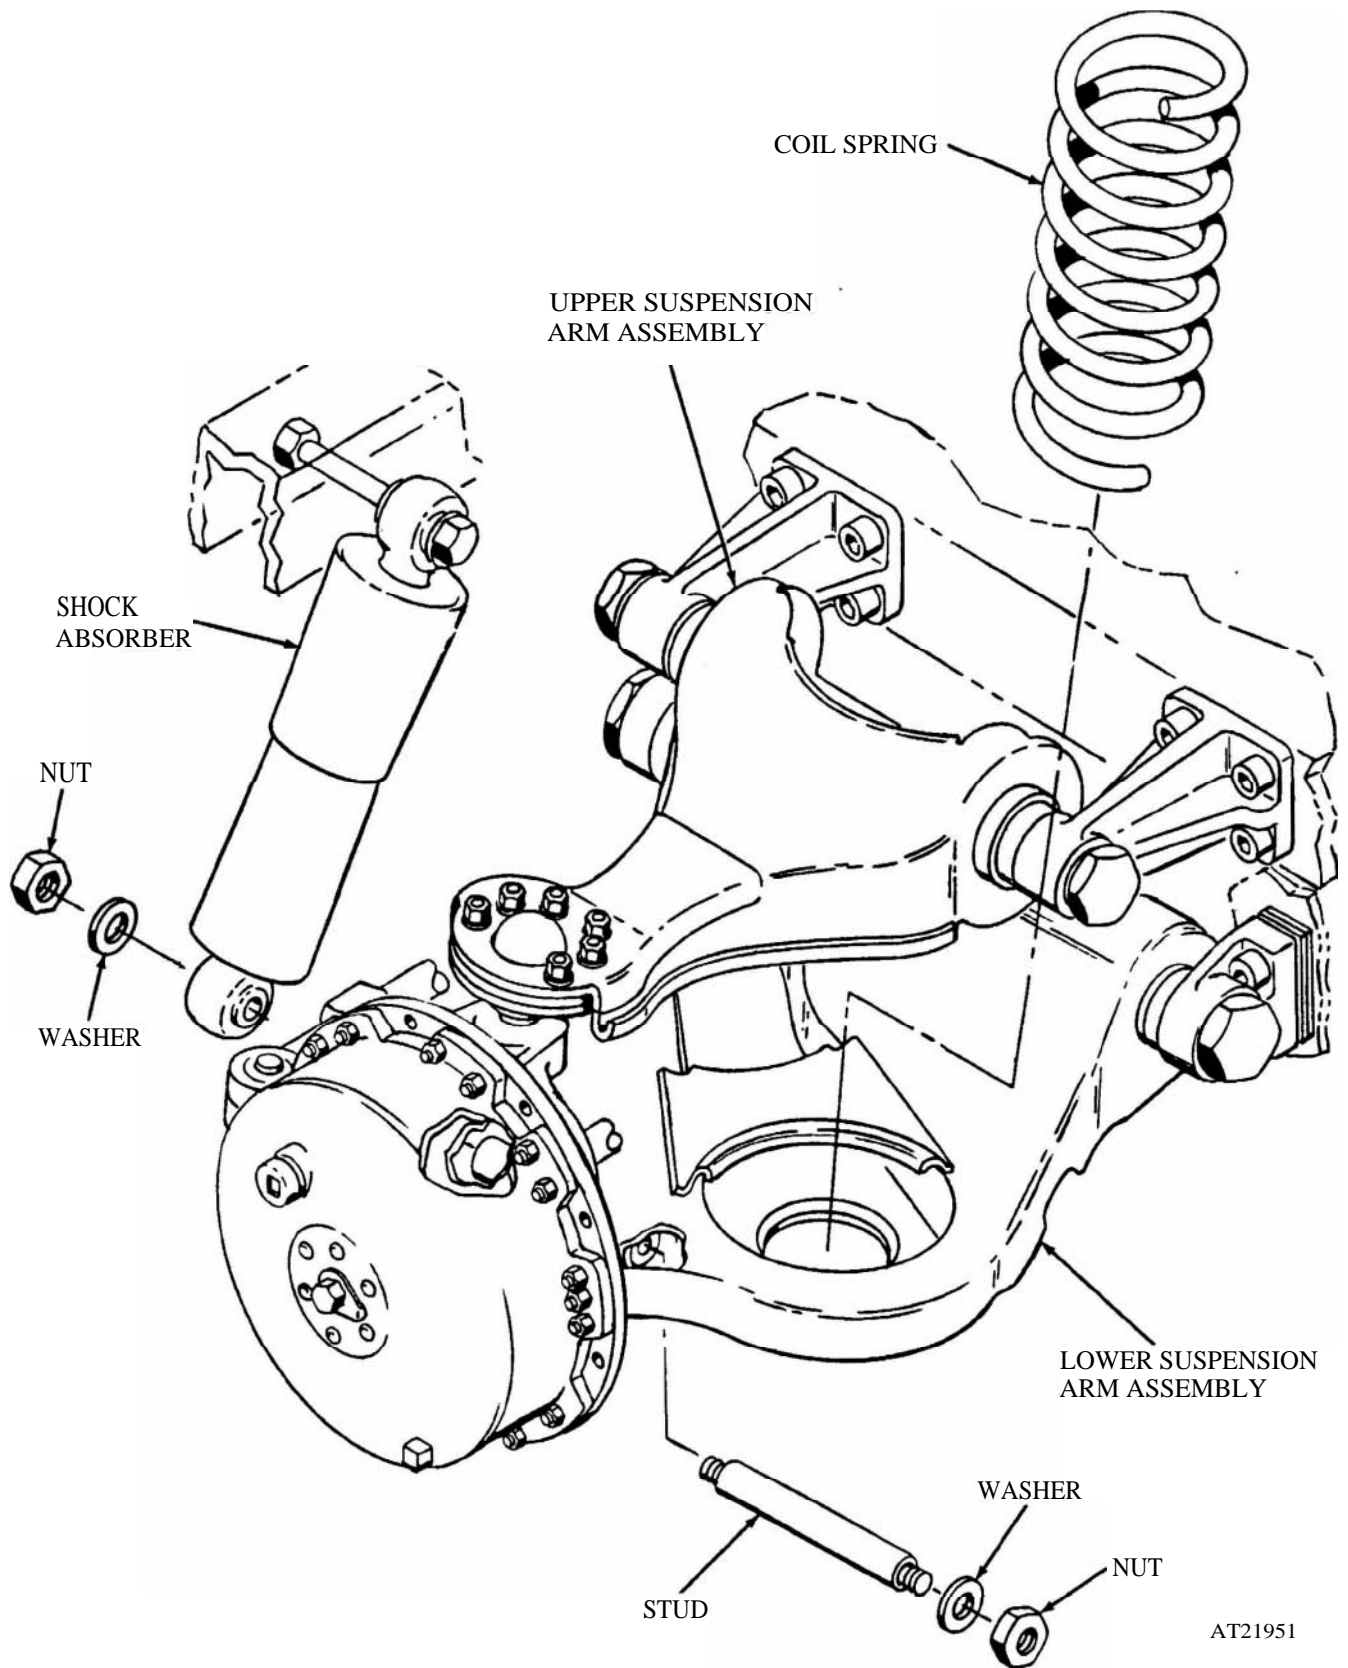

Figure 2-299. Tractor and carrier coil spring, removal and installation.
(2) Remove wheel and tire assembly (refer to **para** 2-156).
(3) Remove nuts, washers, and stud securing lower end of shock absorber (fig 2-299).
(4) With suspension arm assembly at its lowest possible position, pry spring out of its seat on lower
(1) With suspension arm assembly at its lowest possible position, insert spring in upper arm assembly. Pry spring into lower arm seat (fig 2-299).